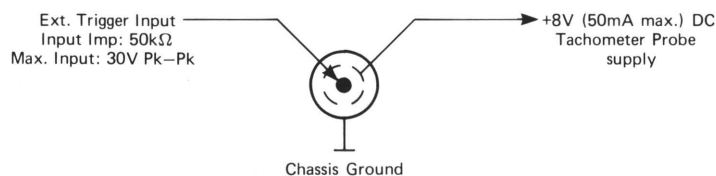

Fig. 2.2. EXT. TRIGGER INPUT (external view)
- EXT. TRIGGER INPUT:** 3-pole coaxial socket accepting the standard BNT plug JP 0315 or BNC plug JP 0035 supplied. The centre pin of the socket is for application of an external signal to trigger the flash ignition and/or use of the 4913 as a tachometer. The middle contact (see Fig. 2.2) outputs +8 V (50 mA max.) DC for powering an active tachometer probe such as the B & K MM 0012, whilst the outer screen is ground and is internally connected to chassis. The trigger input has an input impedance of 50 k Ω in series with 680 nF and is triggered by signals between 100 mV and 30 V Peak-Peak with repetition frequency up to 10 kHz (6000 kr/min) and minimum pulse width of 5 μ s. See section 3.3.